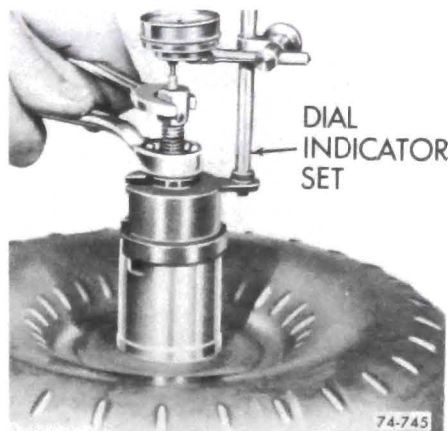

Figure 76-745
- c. Install dial indicator set at 0 as shown in Figure 76-745.
- d. Loosen hex nut. When nut is fully loosened the reading obtained on the dial indicator will be converter end clearance. If clearance is .050" or over and the oil has the appearance of having been mixed with aluminum paint, replace the converter. See Figure 76-745.